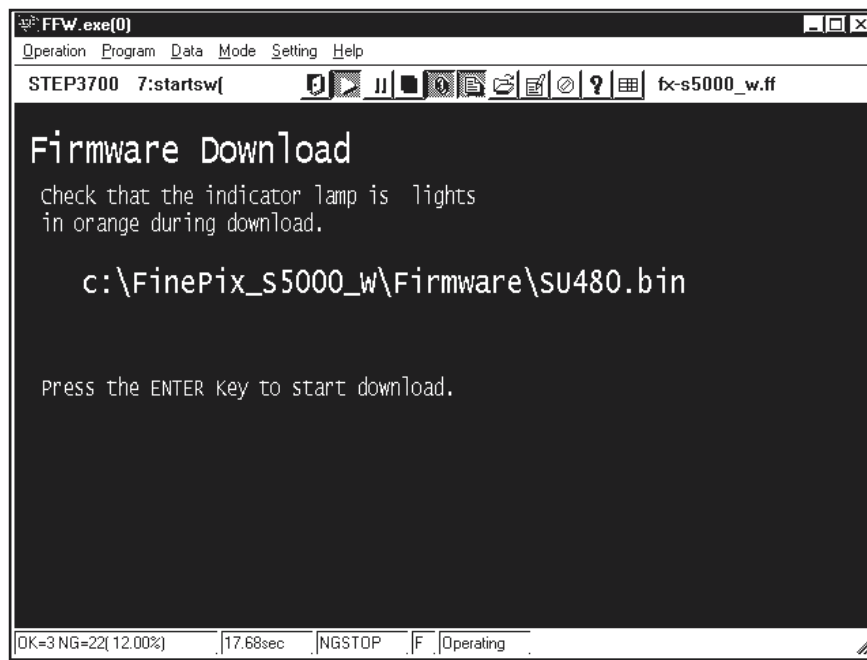

Fig.34
---> The **[Download start Screen (Fig.34)]** appears.